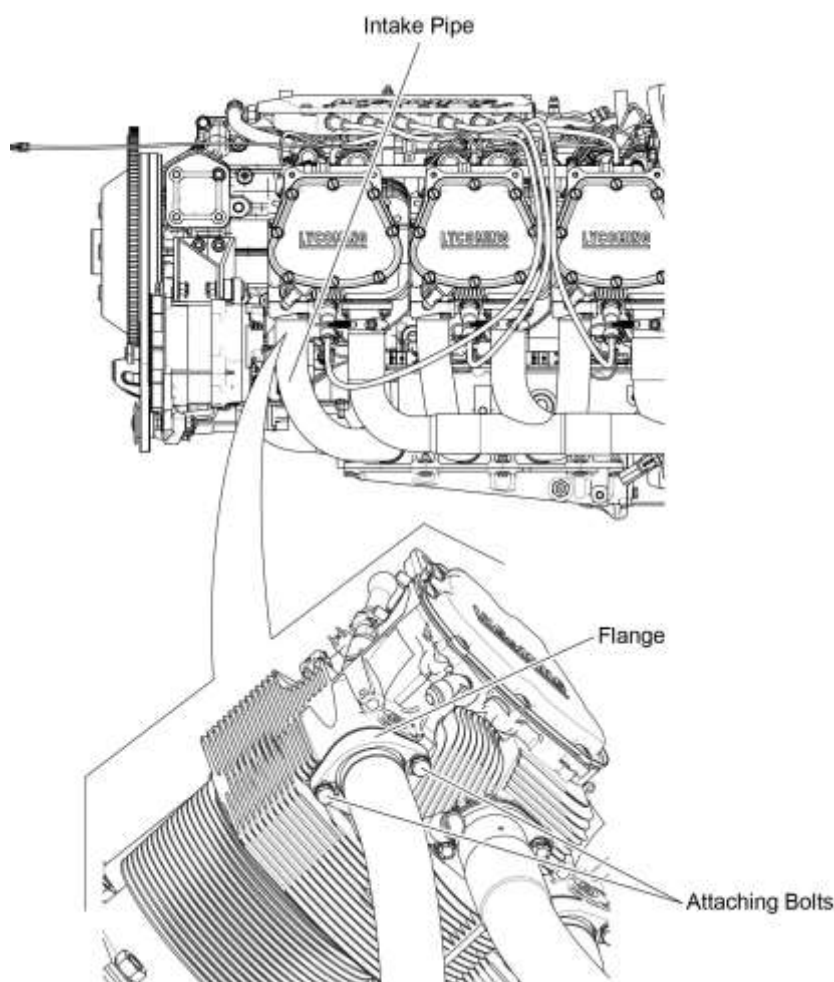

Figure 1
- A. Look for leaks at intake pipe connections (Figure 1).